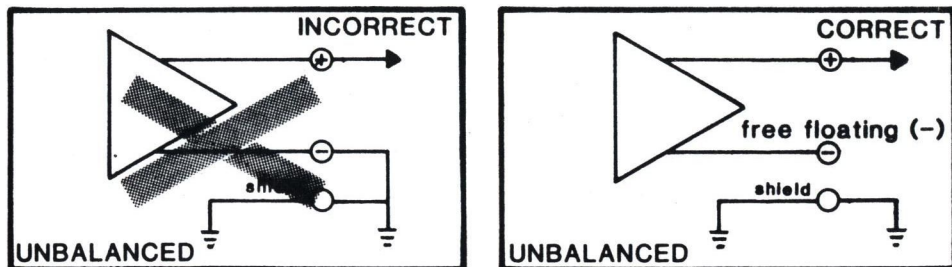

FIGURE 3 - WIRING POSITIVE (+) UNBALANCED OUTPUTS (IN PHASE)
- Using the POSITIVE (+) outputs, only the POSITIVE (+) output terminal and the ground terminal are used. The NEGATIVE (-) output terminal is left unconnected (free floating) (See figure 3.)